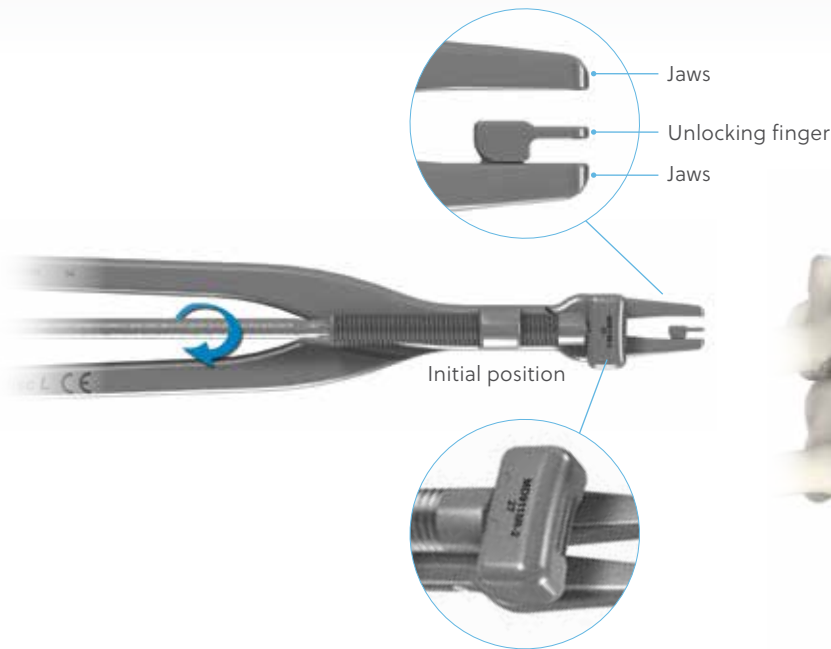

Figure 51
- Assemble the lever arm on the revision forceps by tightening it with the screwdriver T25. Make sure that the laser mark is facing up (**Figure 51**).